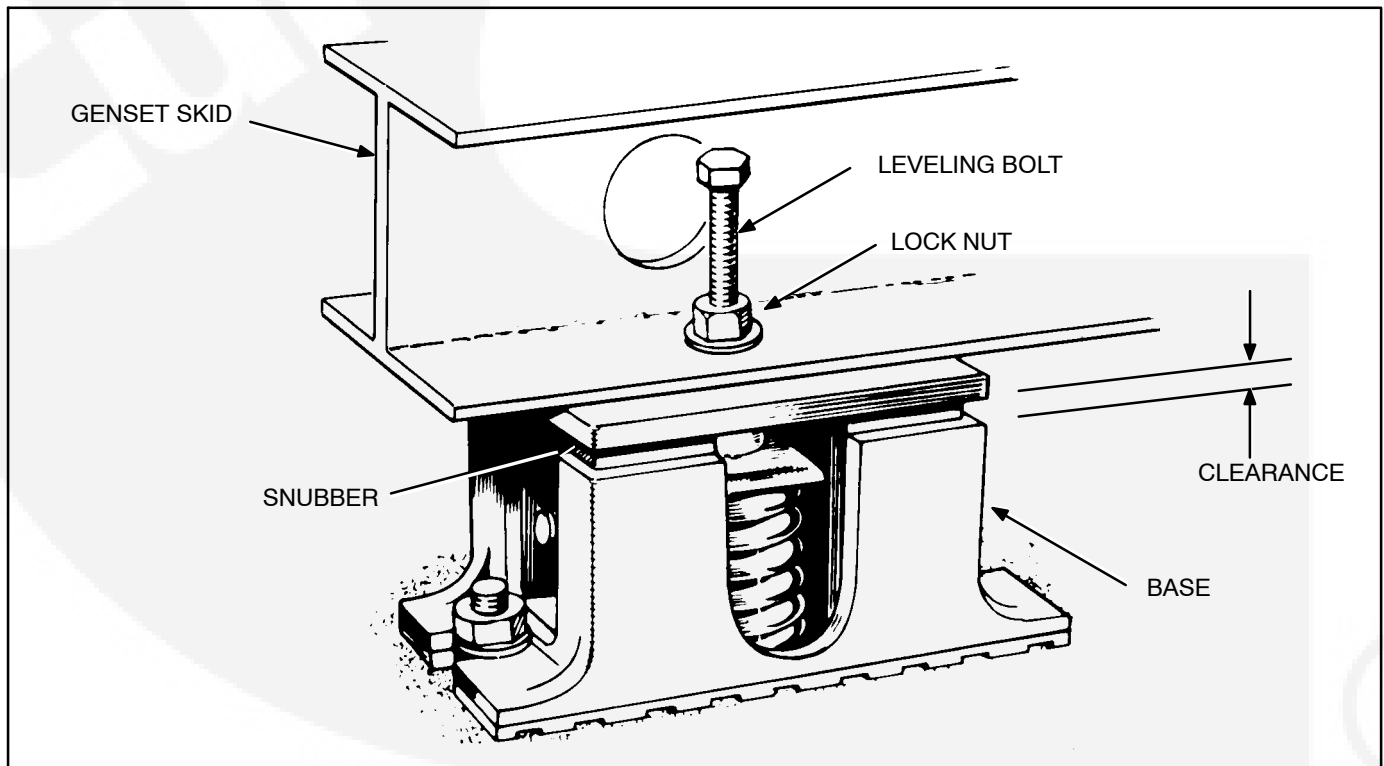

FIGURE 3-3. VIBRATION ISOLATORS
1. Place the vibration isolators (Figure 3-3) on the genset support structure. The isolators should be shimmed or grouted to ensure that all of the isolator bases are within 0.25 inch (6 mm) elevation of each other. The surface that the isolator bases rest on must be flat and level.